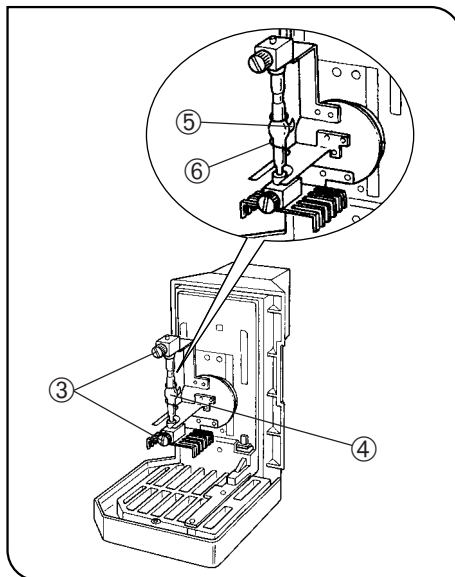

Fig. 7
3. Place the socket section upside down as shown in Fig. 7.